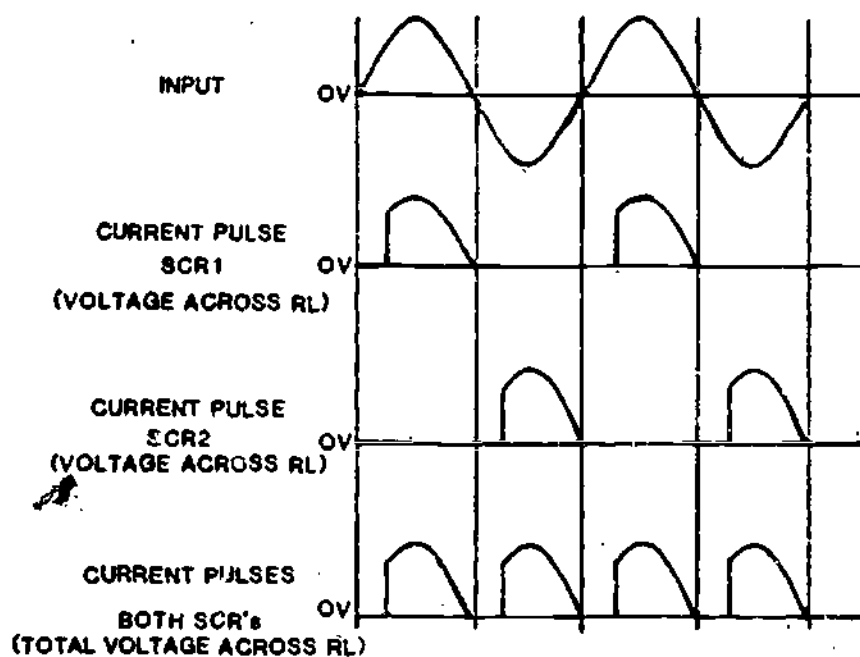

Figure 15
19. The waveforms shown in Figure 15 indicate the output of the full-wave SCR rectifier during complete input cycles. Notice that with such a rectifier, there is a voltage across the load during each alternation of the sine-wave input. The bottom waveform shows the total output of the SCR through two complete cycles.